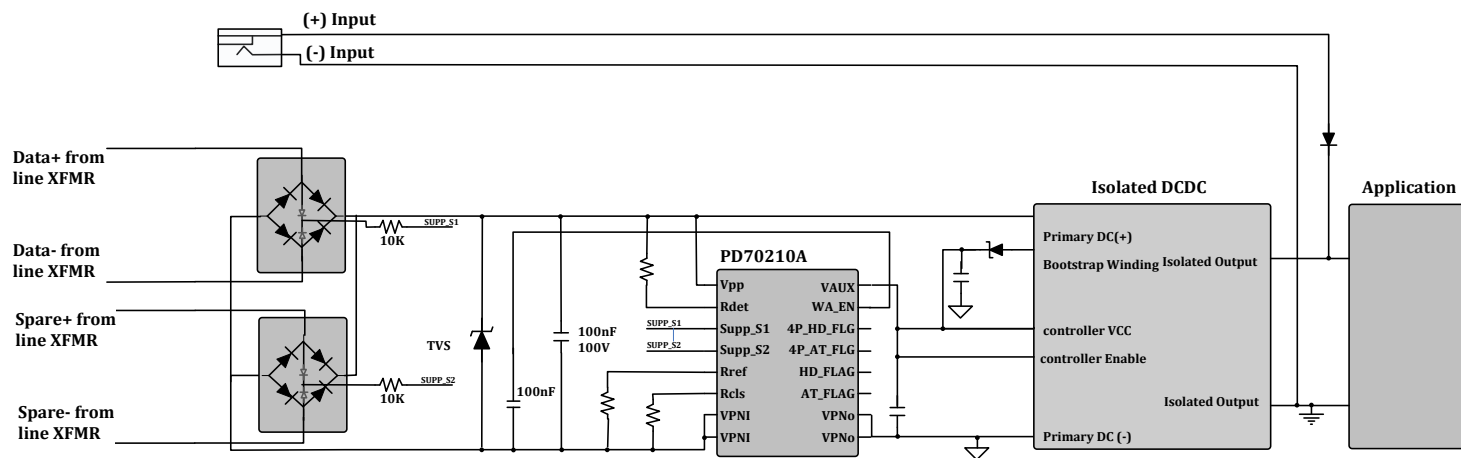
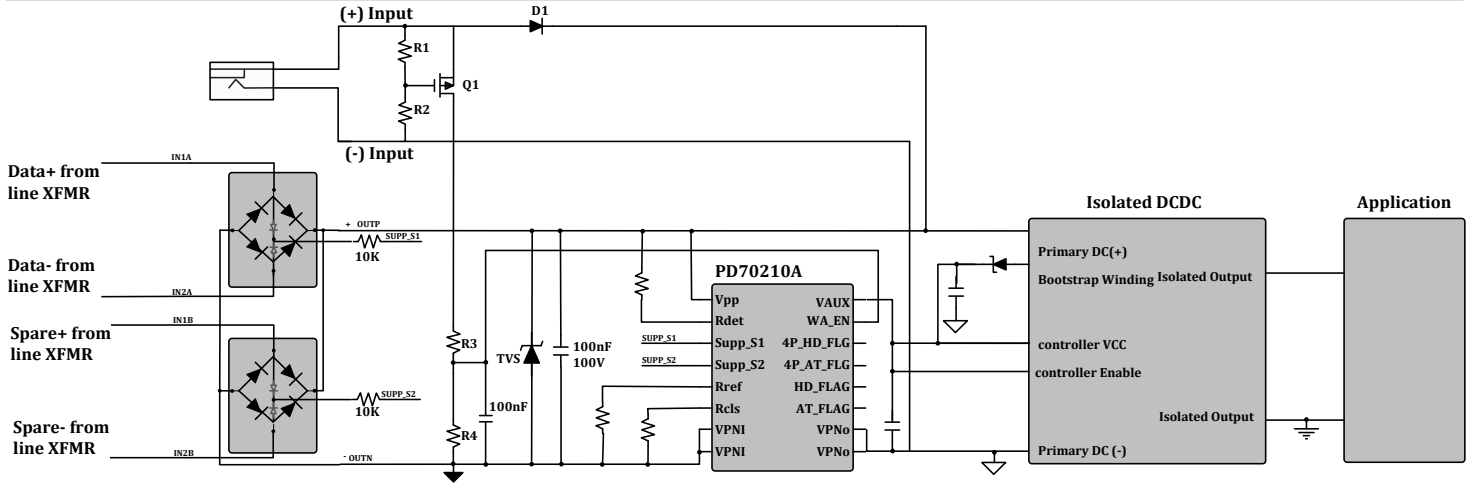

Figure 4: External Power Input connected to Application supply Rails
Figure 5: External Power Input connected to PD70210A Output
The Peripheral devices are presented in Figure 4 and Figure 5.
PD applications utilizing PD70210A IC may be operated with an external power source (DC wall adaptor). There are two cases of providing power with an external source, the cases are presented in Figure 4 and Figure 5.
- 1) External source connected to application's low voltage supply rails. External source voltage level is dependent on DCDC output characteristics. Described in Figure 4
- 2) External source connected to PD device output connection toward the application (VPP to VPNI_{OUT}). External source voltage level is dependent on DCDC input requirements. Described in Figure 5
External source connected to PD device output (Figure 5)